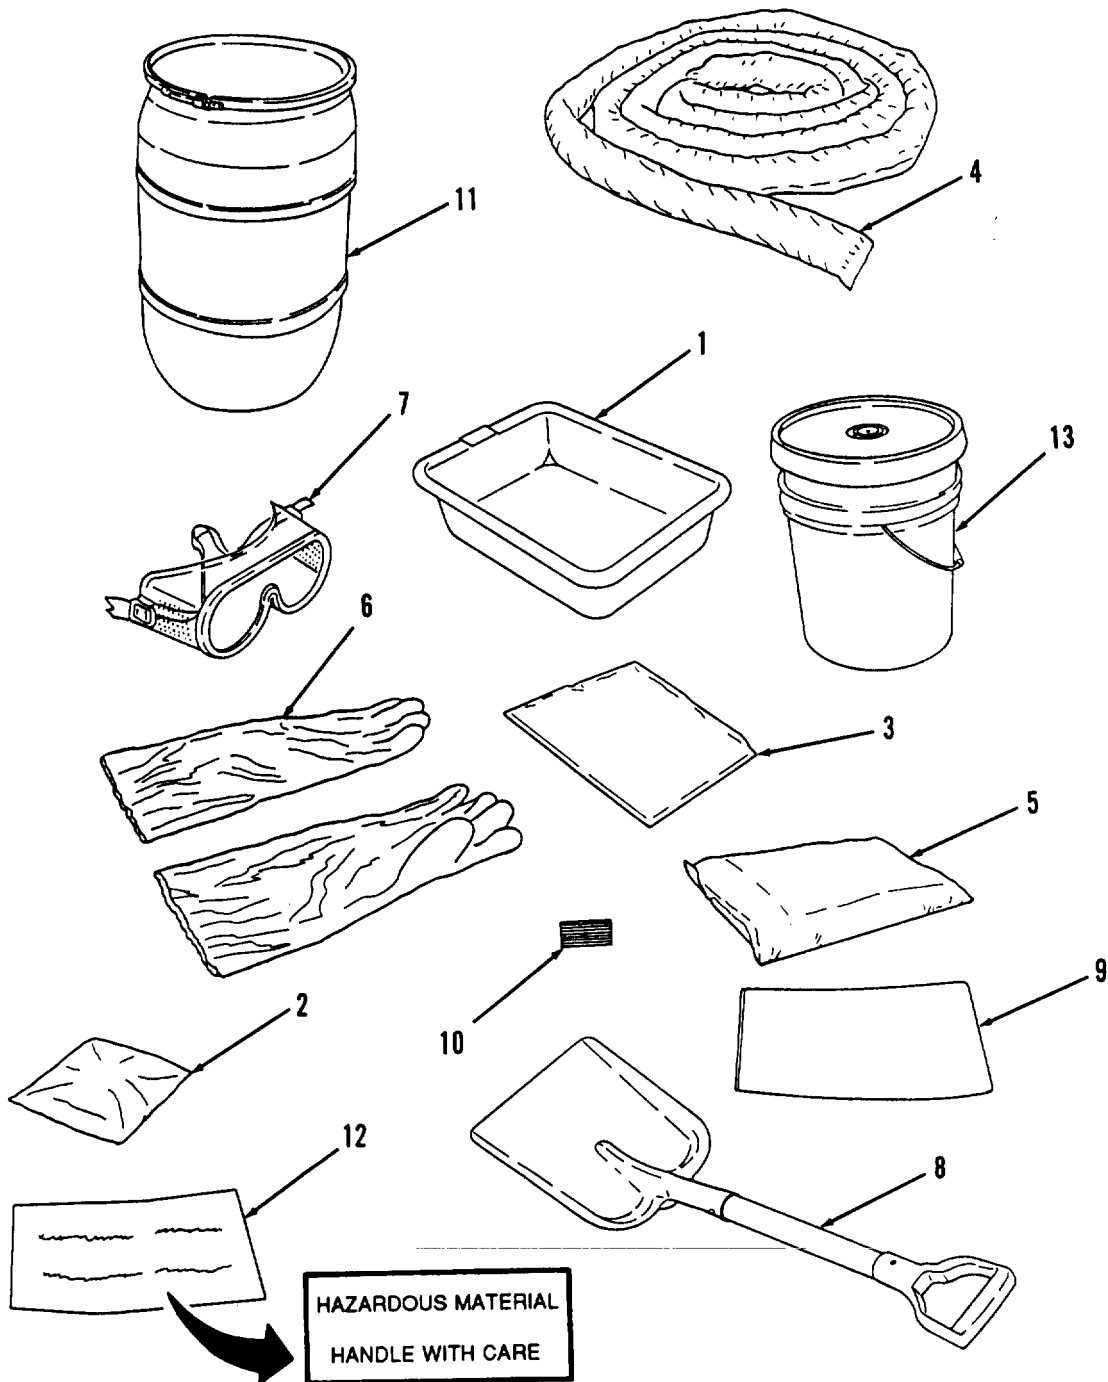

Figure 2-1.1. Spill Control Kit.
(1) All Spills. Detailed instructions must be given by the responsible environmental authority. Each spill must be treated as an individual case because of size, type of fuel involved, wind conditions, weather, equipment available, possible involvement of vehicles, and other similar variables. In general, the following are basic actions that should be considered and carried out to prevent spills if spills occur with the FSSP (Refer to Figure 2-1.1.):